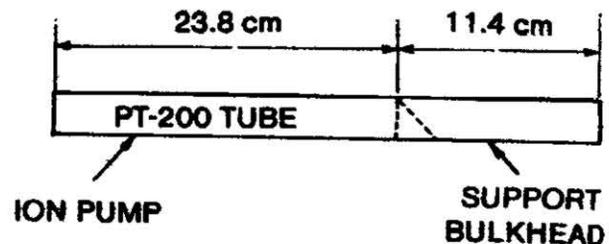
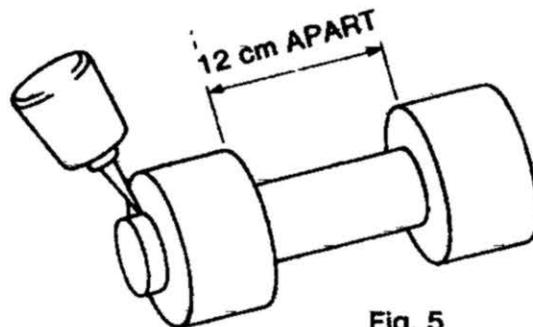

Fig. 3b
Fig. 5
**B** Slide the coupler tube assemblies onto opposite ends of the Ion Pump Tube (compare with Fig. 3b), and center them on the tube, 12 cm apart. Apply a coat of glue as shown in Fig. 5, to make a strong joint between the tube, and each of the centering rings.